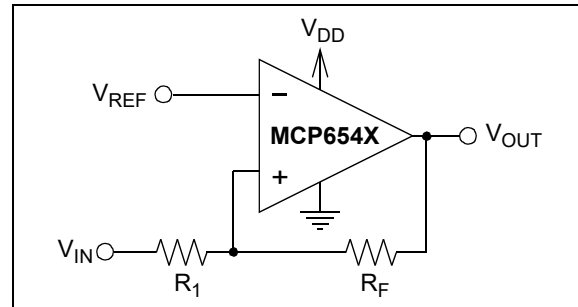
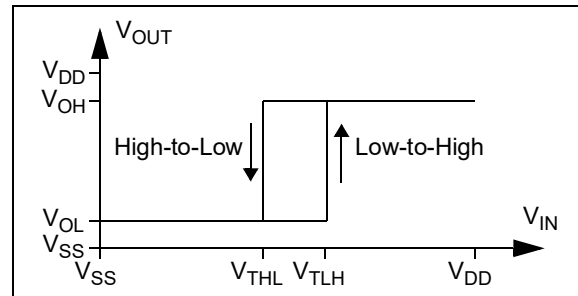

FIGURE 4-4: Non-inverting Circuit with Hysteresis for Single-supply.
FIGURE 4-5: Hysteresis Diagram for the Non-inverting Circuit.
Figure 4-4 shows a non-inverting circuit for single-supply applications using just two resistors. The resulting hysteresis diagram is shown in Figure 4-5.
The trip points for Figure 4-4 and Figure 4-5 are:
2. Non-inverting Configuration (Figure 4-4):